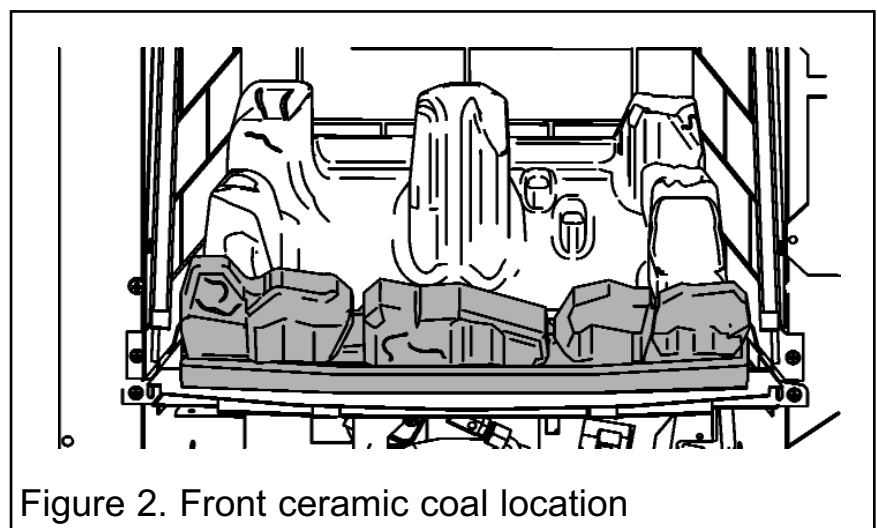

Figure 2. Front ceramic coal location
2. It is important that the front ceramic is positioned correctly and does not cover the burner ports in any way. Locate the front ceramic as in figure 2 so that its front edge rests against the rear of the burner baffle.